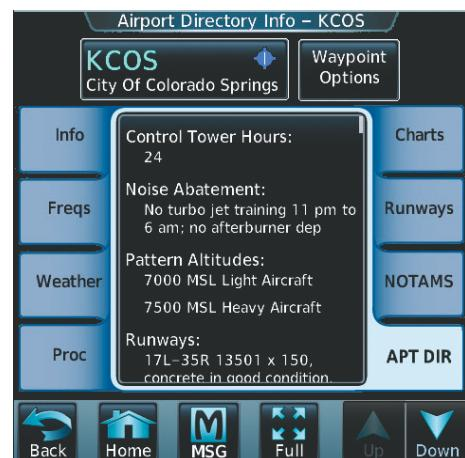

Figure 8-23 AOPA Airport Directory Information
- 4) Touch the **APT DIR** Tab to display the Airport Directory information for the selected airport as shown in Figure 8-23.
- 4) Scroll to display the Airport Directory database information as shown in Figure 8-23.